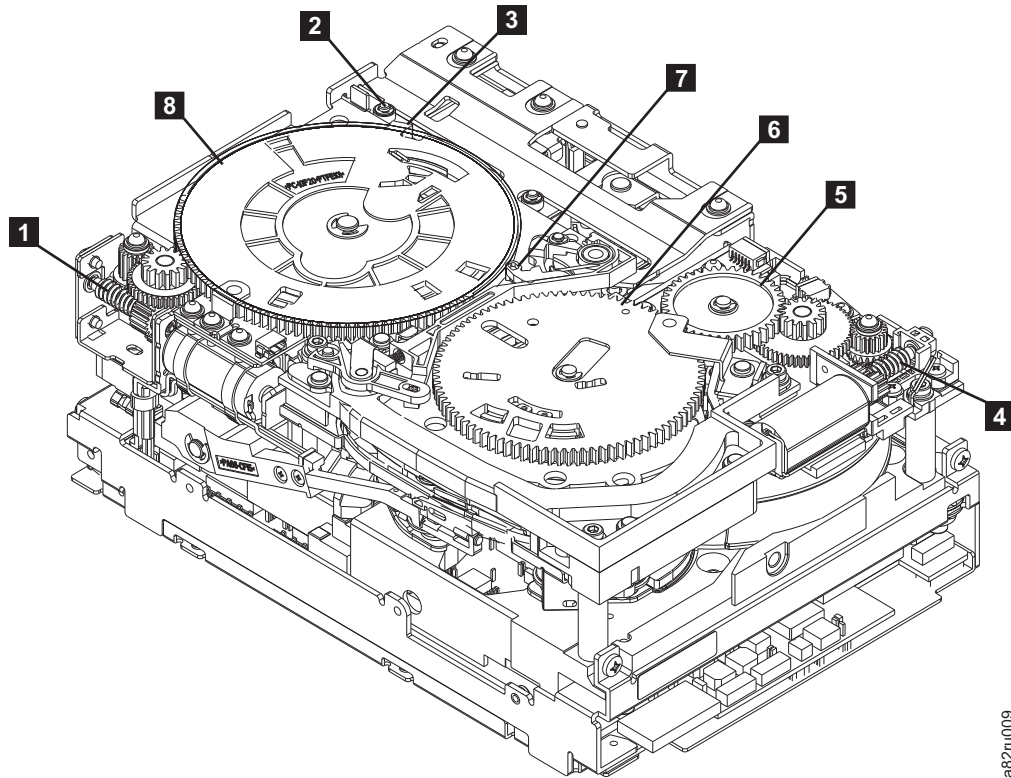
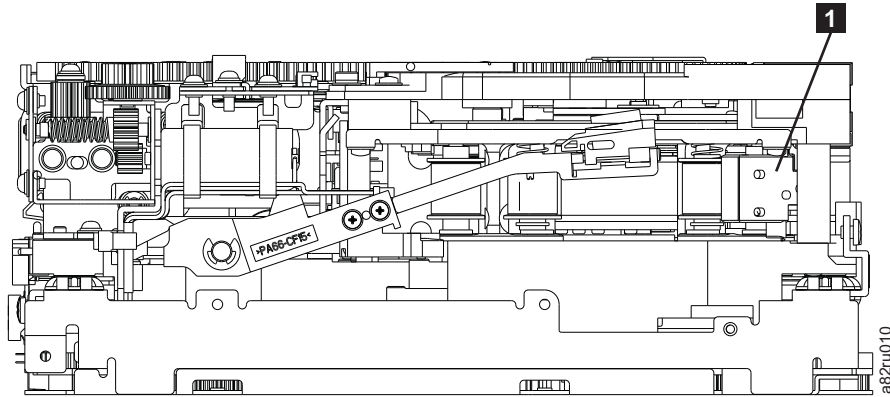

Figure 206. Drive with cover removed to reveal gear train.
Figure 207. Leader Block Assembly (LBA)
5. Locate the threader motor worm gear (**4** in Figure 206 on page 277) on the rear of the drive. Use your finger to rotate the threader motor worm gear and slowly rotate the threader mechanism gear (**6** in Figure 206 on page 277) clockwise. This action rotates the threader motor worm gear (**4** in Figure 206 on page 277) clockwise, drawing the LBA into the cartridge.
6. As the tape leader block assembly (LBA) is secured in the cartridge, you hear the LBA retention spring clips click into place. If you do not hear the click, continue rolling until the threader motor worm gear (**4** in Figure 206) stops. The LBA is in the correct position.
- a. Loader mechanism gear (**6** in Figure 206) nearest the front of the drive that actuates the cartridge loader mechanism.
- b. Position of the rotate stub (**3** in Figure 206).
- c. Front loader motor worm gear (**1** in Figure 206). Rotating this gear allows the loader mechanism gear (**8** in Figure 206) to turn.
8. Rotate the loader motor worm gear (**1** in Figure 206) to turn the loader mechanism gear (**6** in Figure 206) counterclockwise. Continue turning until the rotator stub (**3** in Figure 206) loses contact with the lever (**7** in Figure 206). This action releases the LBA leader pin.
9. Rotate the threader motor worm gear (**4** in Figure 206 on page 277) to turn the threader mechanism gear (**6** in Figure 206 on page 277) counterclockwise. This action moves the LBA out of the cartridge and past the read/write head. Stop this rotation when the LBA is near the tape guide roller nearest the rear of the drive that is shown as **1** Figure 207.
10. Continue rotating the loader motor worm gear (**1** in Figure 206 on page 277) until the rotator stub (**3** in Figure 206 on page 277) is positioned as shown. Notice that the rotator stub (**3** in Figure 206 on page 277) is nearly aligned with the cartridge loader tray guide bearing (**2** in Figure 206 on page 277).